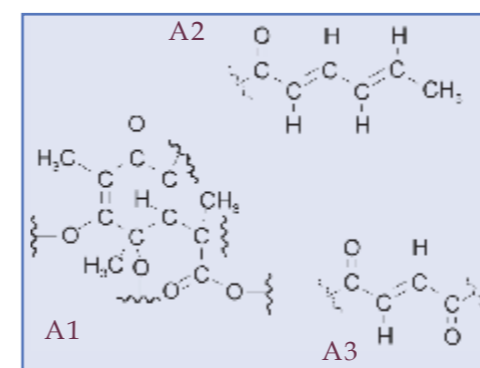

Fig. 4: Partial structures of the new substance represented by peak A
*NMR spectroscopy* is particularly suitable for this purpose. This technique examines the nuclear magnetic resonance (NMR) of a substance and the individual carbon and hydrogen atoms can be "seen". More importantly the special environment can be clarified; identifying which atom is joined to which atom. From this, the whole molecule reveals itself piece by piece, built up like a jig-saw puzzle. In such a way, the compound of interest represented by peak A consists of three structural parts (Fig. 4):